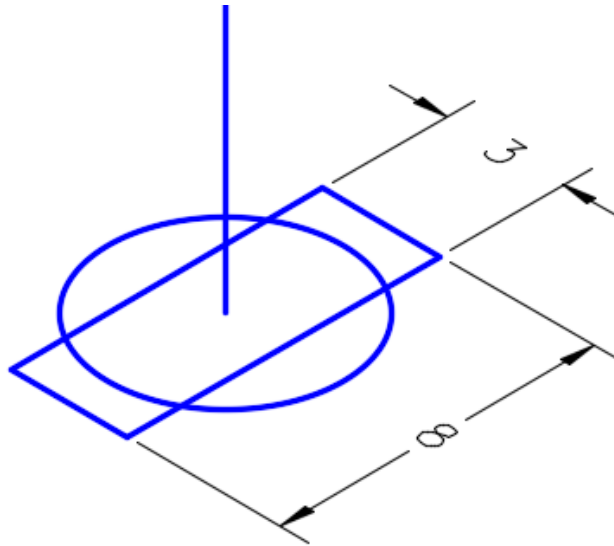

Figure Step 14A
Step 14 After drawing the necessary construction lines, draw a 3 x 8 closed rectangular plane with its center located at the end of the pline. (Figure Step 14A and 14B)